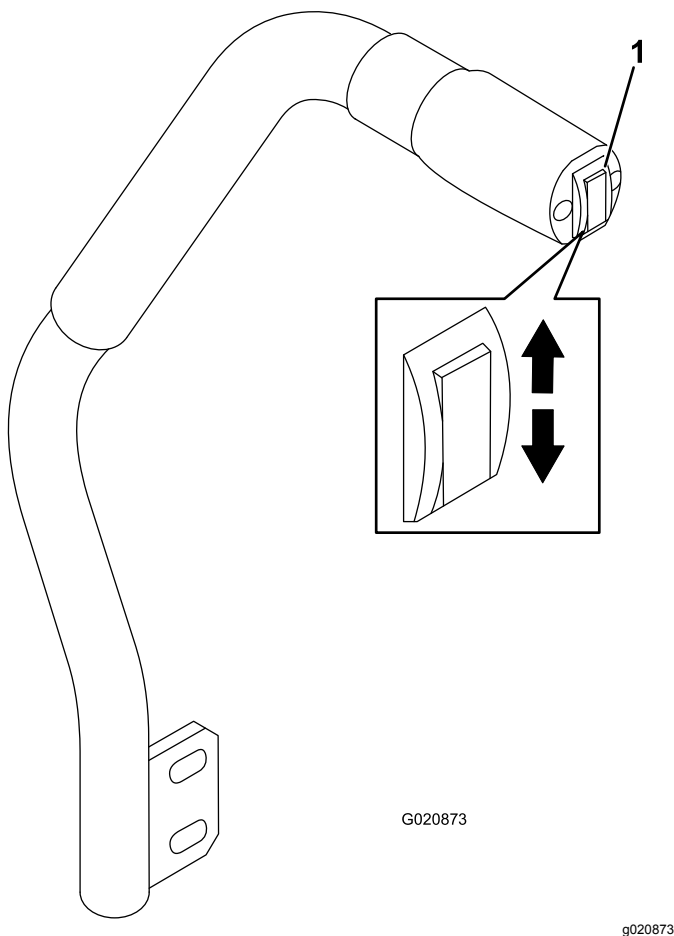

Figure 19
The deck-lift switch raises and lowers the mower deck (Figure 19).
- To lower the mower deck, push the deck-lift switch down (Figure 19).
- To raise the mower deck, push the deck-lift switch up (Figure 19).